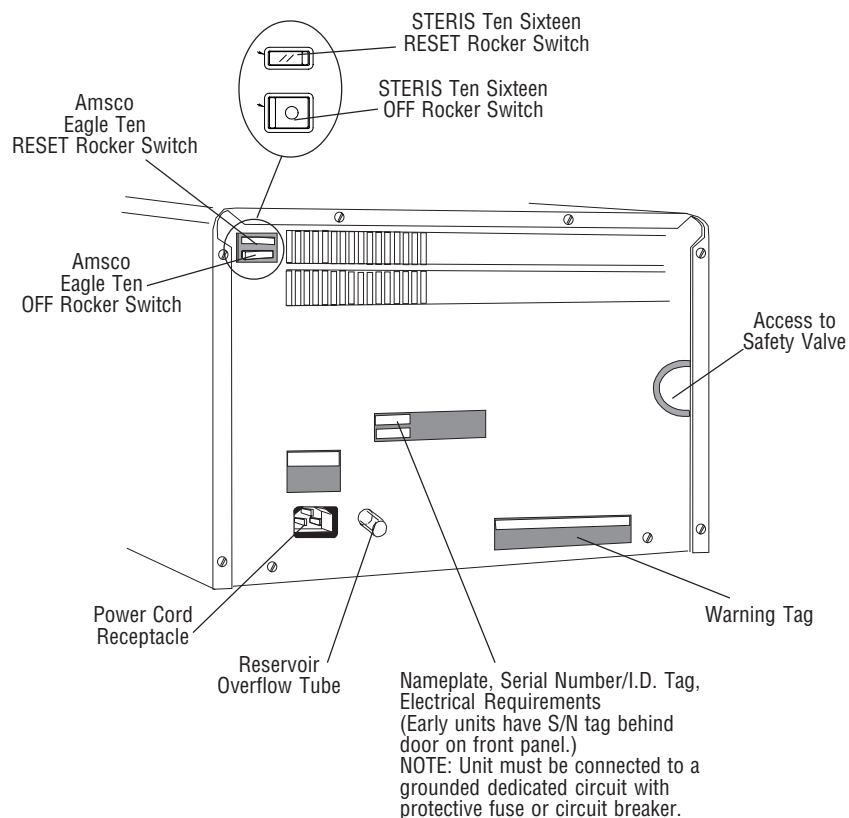

**Figure 3-3**
### 3.1.3 Miscellaneous Features (Figure 3-3)
- **Chamber Pressure Gauge** - displays the current pressure inside the chamber (0-60 psig). If this pressure gets too high, it is released through the safety valve (rear panel, see Figure 3-3).
6. Attach the female end of the power cord to the rear of the sterilizer (Figure 3-3).
7. Plug the male end of the power cord into a dedicated, properly grounded electric outlet of the voltage and current specified on the serial number /ID nameplate (located on inside front or back panel of sterilizer, see Figure 3-3).